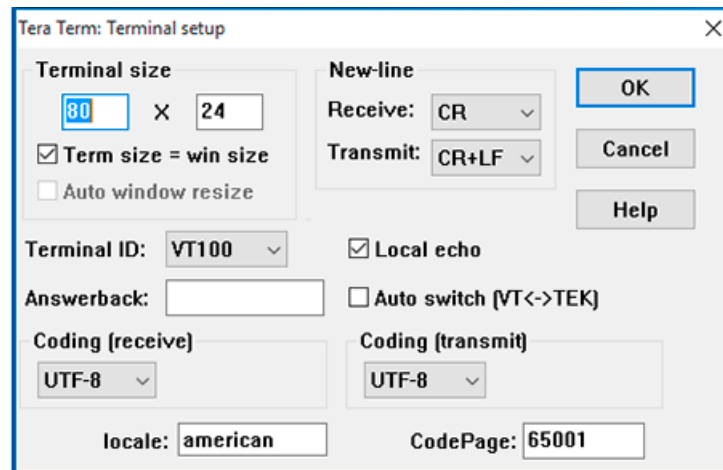

Figure 5-3. Terminal Set-Up Example
- a.) Figure 5-3 shows an example terminal program set-up.